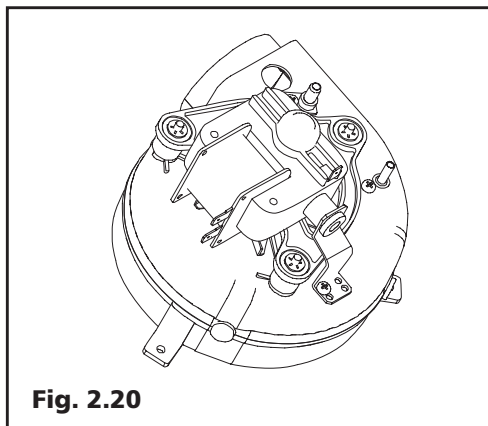

Fig. 2.20
2.15 Ventilatore (versioni C.S.I./R.S.I.) (Fig. 2.20)